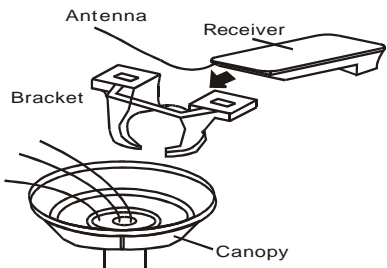

Figure1.
1. Disconnect the wires from the ceiling to the fan. Install the receiver to the ceiling fan according to your mounting type (Figure 1). Be sure the antenna is positioned so it is exposed when canopy is attached. Do not modify or damage the antenna wire as control performance may be reduced.